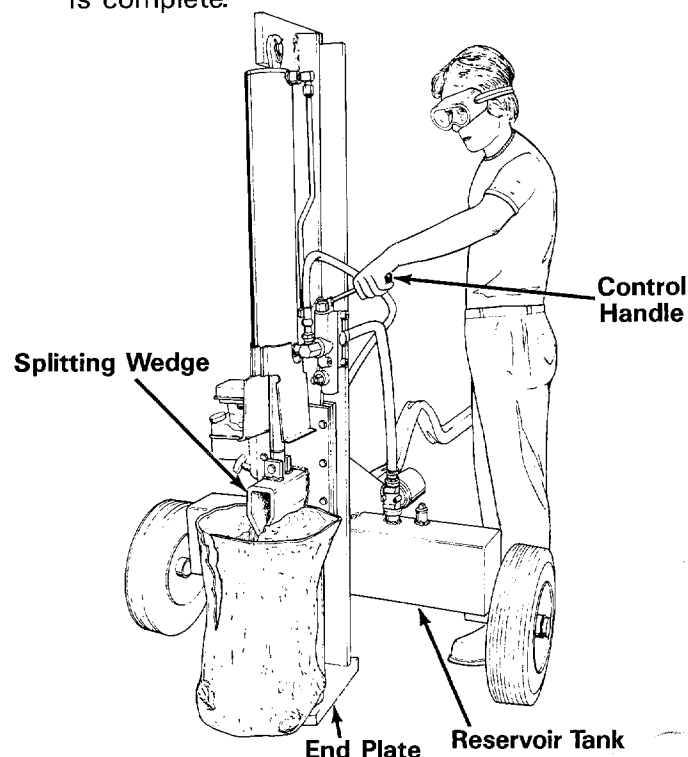

FIGURE 15 - Model PRO/20 Shown TO OPERATE LOG SPLITTER:
Use the log splitter only on a level, hard surface. Never stand next to the splitting wedge when operating the log splitter. Always stand behind the reservoir tank. See figure 15. Never attempt to cut a log in half sideways. Always split the log lengthwise.
4. **STEP BEHIND THE RESERVOIR TANK** (see figure 15) and press the control handle down until the log is split.